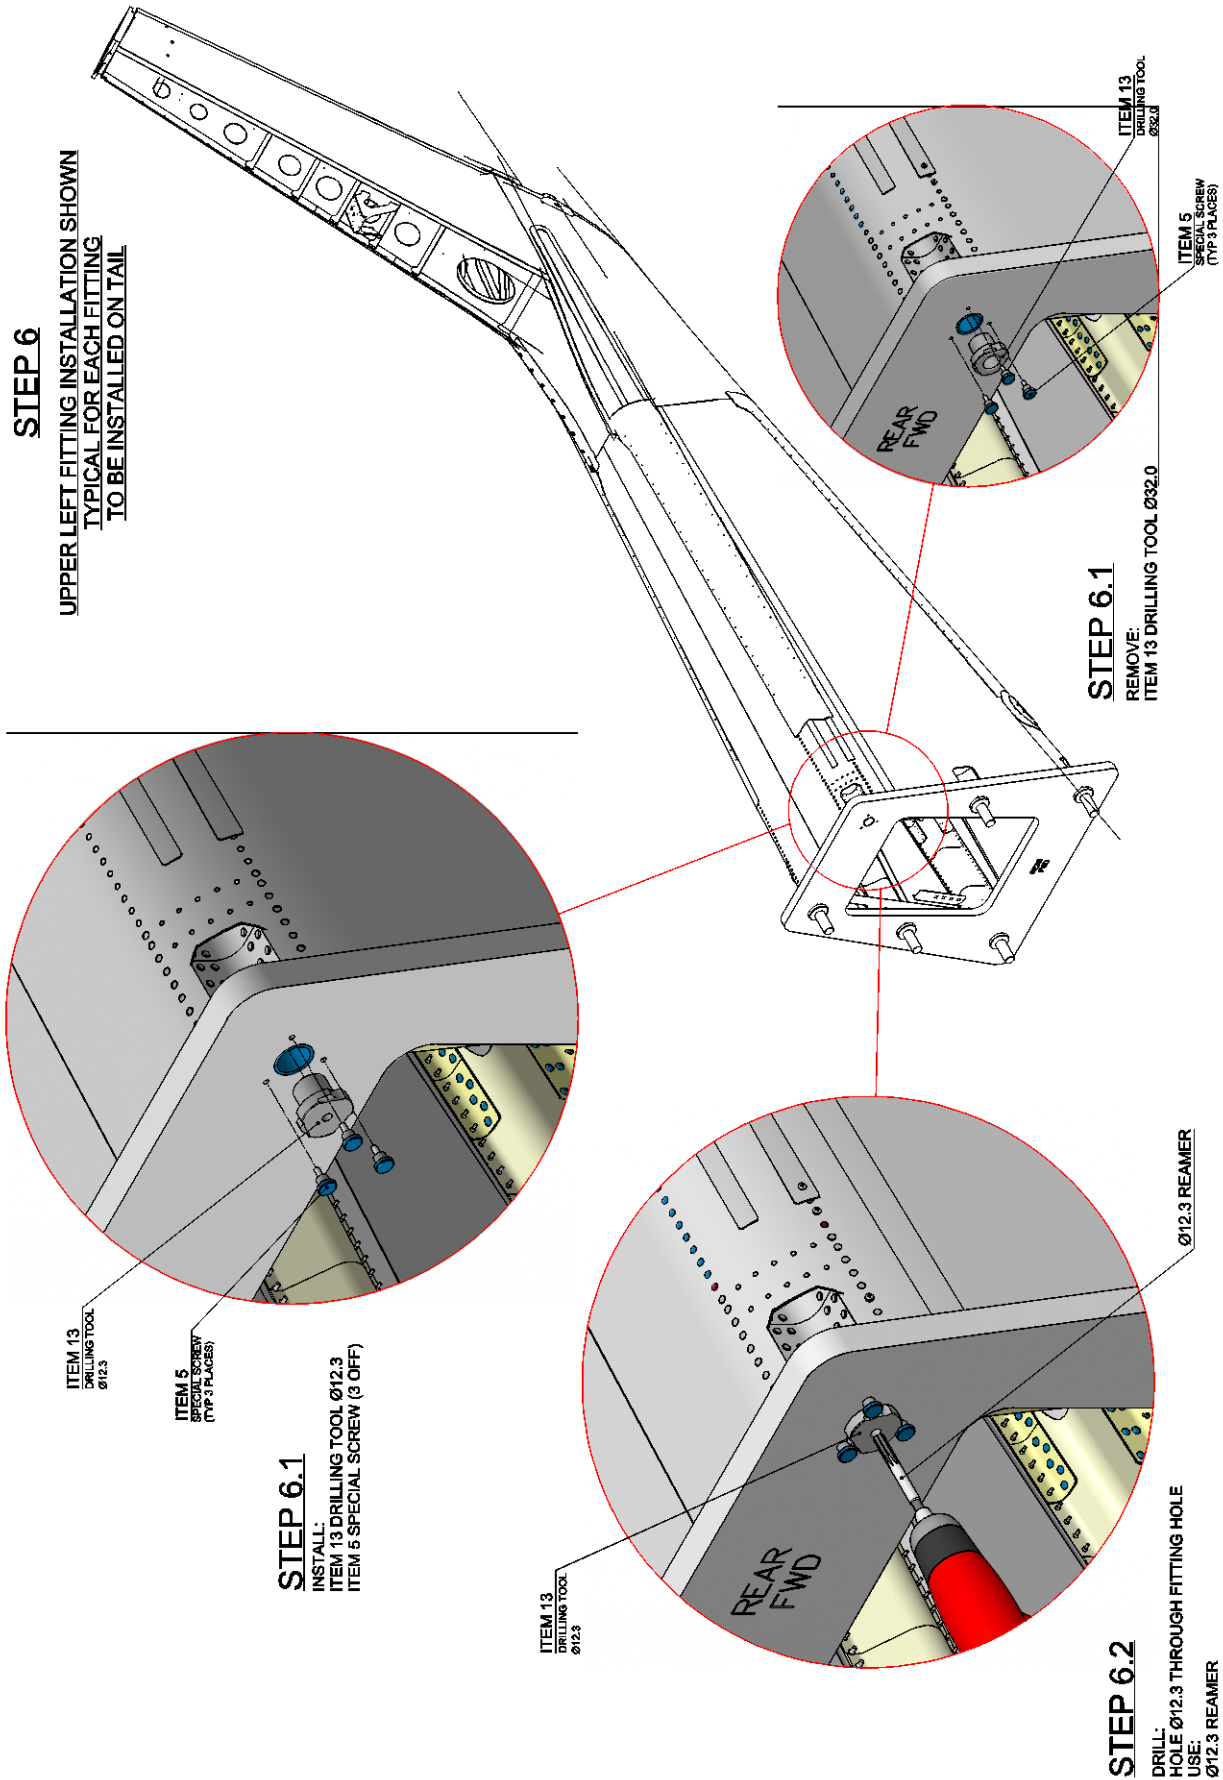

Figure A7
10. With reference to Figure A7, remove the drilling tool $\varnothing 32.0$ (ITEM 13) and install the drilling tool $\varnothing 12.3$ (ITEM 13) by means of n°3 special screws (ITEM 5); ream the fitting hole to $\varnothing 12.3$ by means of reamer $\varnothing 12.3$.
11. With reference to Figure A7, remove the drilling tool $\varnothing 12.3$ (ITEM 13) and the n°3 special screws (ITEM 5).